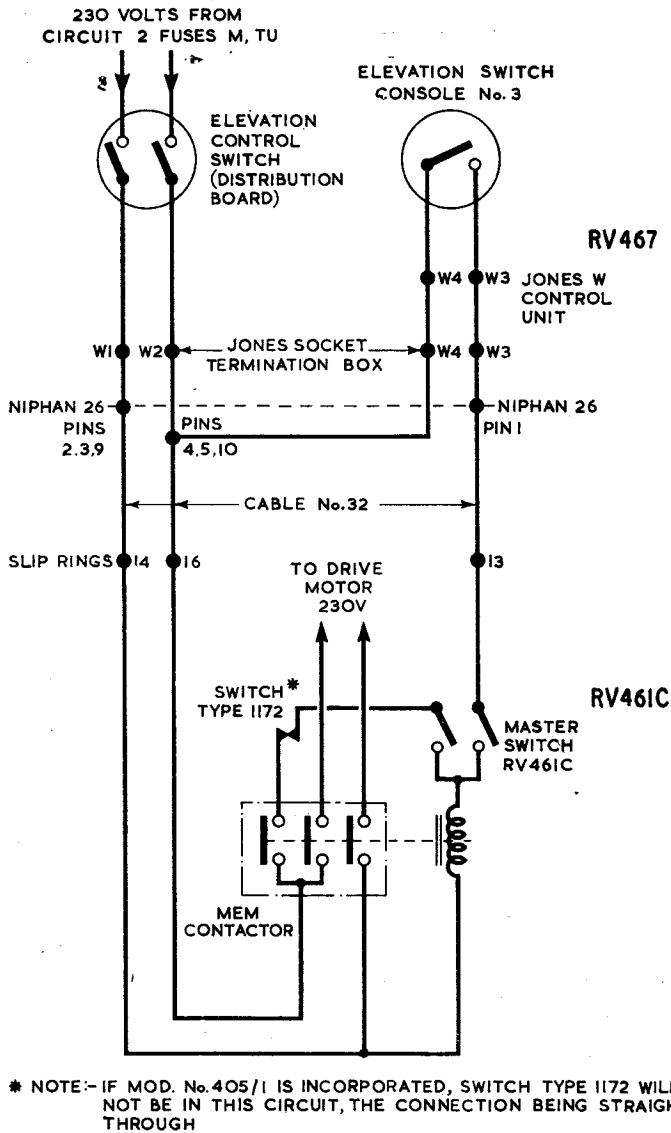

Fig. 28. Aerial tilting gear : circuit
77. In the circuit of fig. 28, when the elevation control switch, located on the